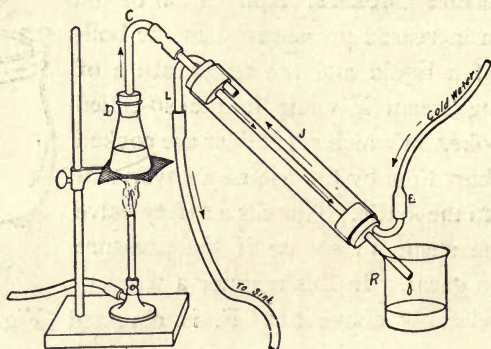

FIG. 21.—DISTILLATION
54. Distillation. Since different liquids boil at different temperatures, if two mixed liquids or a solution of a solid in a liquid are heated, the one boiling at the lower temperature will vaporize first. If this vapor is passed through a tube that is kept cool (Fig. 21), the vapor will condense and may be col-